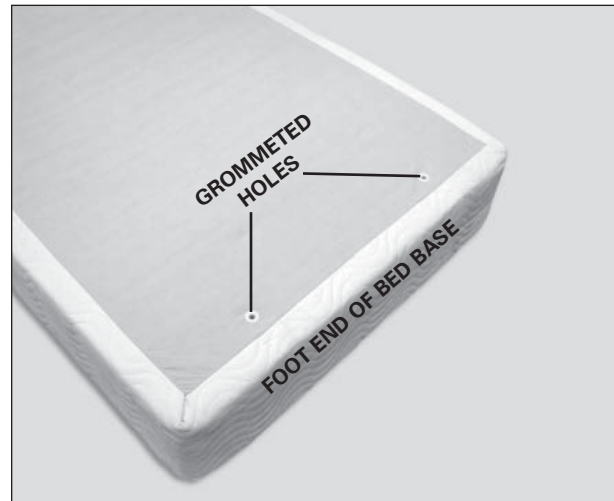

FIGURE 2: Grommeted hole locations.
- Locate grommets holes at foot of bed base (**FIGURE 2**).